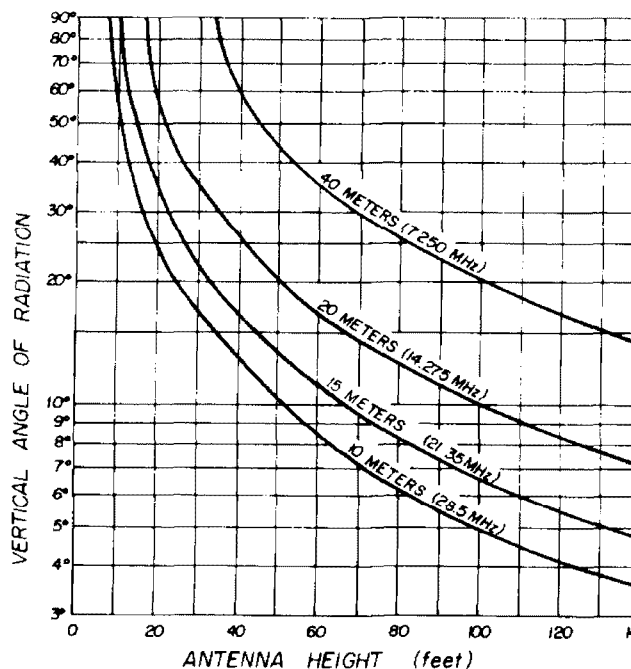

fig. 1. Graph of major vertical radiation lobes for various horizontal antenna heights up to 140 feet.
Transmatches always seem more complicated than they have to be, particularly if you recall that *any* transmission line impedance, real or complex, at *any* vswr, can be made to look like a 50-ohm resistive load by the use of only one inductance and one capacitance in the familiar L-network shown in fig. 1.
fig. 1. Basic L-network impedance-matching circuits. Circuit in (A) matches loads with resistive component greater than 50 ohms. L-network in (B) matches loads with resistive component less than 50 ohms.